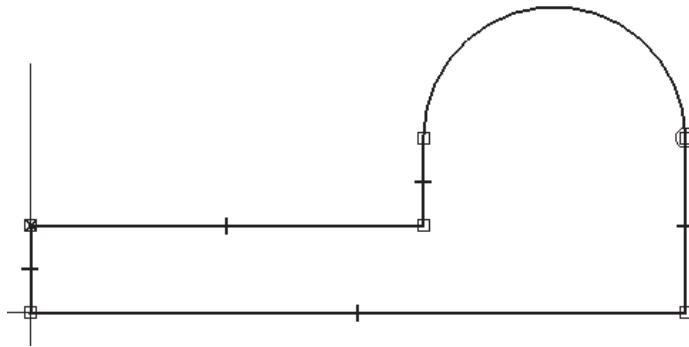

Figure 1-36 Outer loop of the profile for Tutorial 3
12. Click to specify the endpoint of the line when the endpoint relationship handle is displayed. The profile, after drawing the outer loop, is displayed in Figure 1-36.